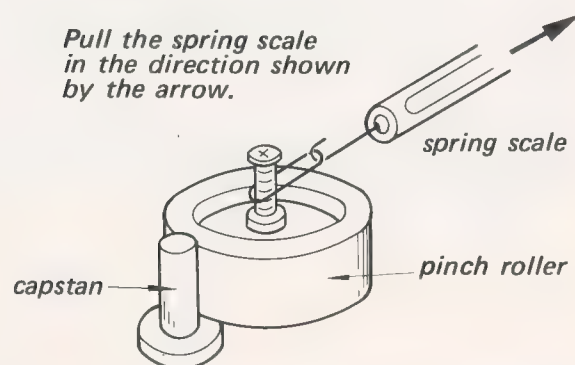

Fig. 3-1-5. Pinch roller pressure adjustment (2)
- (4) Make a loop with a piece of string and attach the spring scale to the Pinch Roller Shaft with the loop of string. See Fig. 3-1-5. Pull the scale horizontally in the direction shown by the arrow. The Capstan Shaft, Pinch Roller and the spring scale should be in a line. Check the reading when the Pinch Roller just leaves the Capstan Shaft.
- (5) Adjust the adjusting nut (B) for 2.5 ± 0.2 kg (5 to 6 lb).
- (6) Repeat steps 3 to 5 several times.
- (7) After adjustment lock the adjusting nut (B) by the lock nut (B), and the adjusting nut (A) by the lock nut (A). (Be careful not to move the adjusting nuts.)